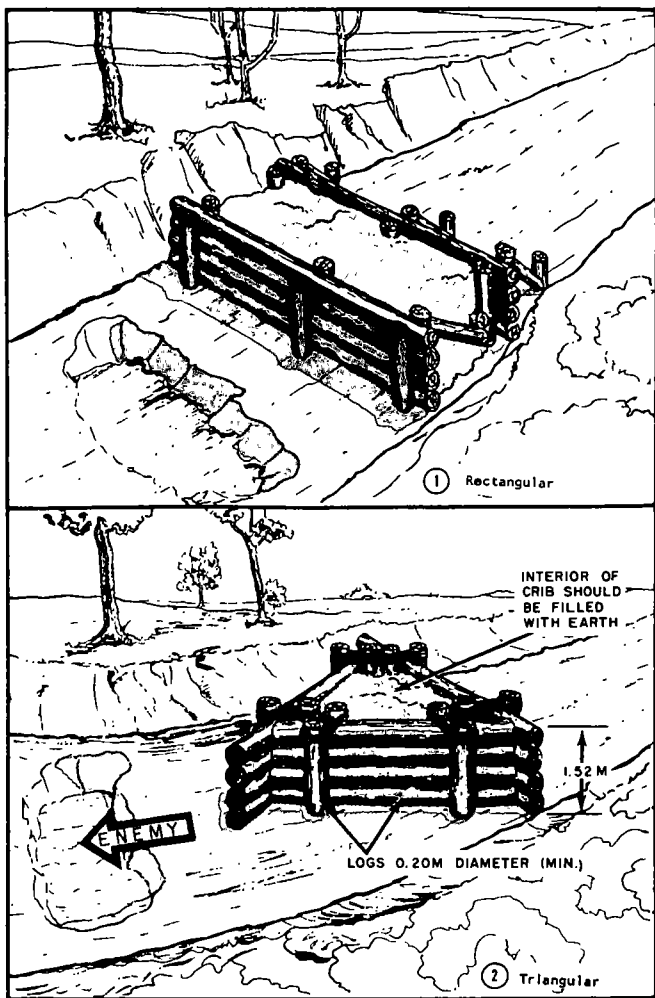

Figure 160. Log cribs.
(2) *Cribs.* Rectangular or triangular log cribs (fig. 160) are used effectively as roadblocks where standing timber is available and where such an obstacle cannot readily be bypassed. Cribs are strengthened by filling them with earth; and preferably the earth is obtained by digging a shallow ditch in front of the obstacle. An engineer platoon equipped with pioneer tools can construct 6 meters of this obstacle in 4 to 8 hours.